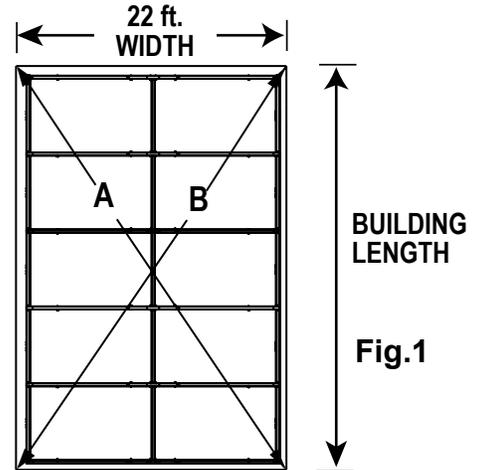

Fig.1
1. Stake out the area for the shelter in the desired spot. The width of the area should be at least equal to the width of the shelter and the length should be equal to the length ("L") of the shelter **Fig. 1**.